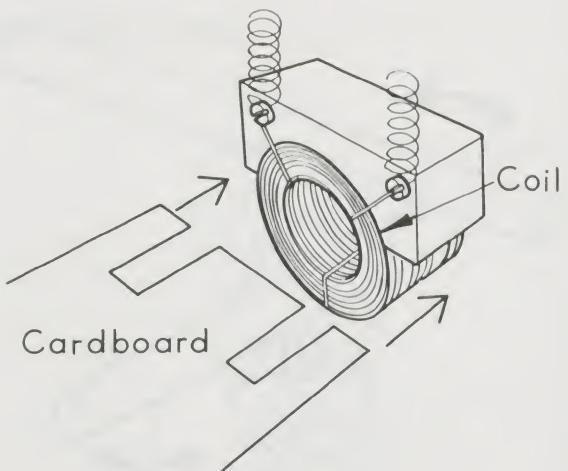

Figure 11.
- Insert a cardboard sheet through the center of the coil as shown in Figure 11. Adjust the current again to about 1.5 A. Sprinkle iron filings over the sheet. Tap the sheet, and sketch the pattern produced.